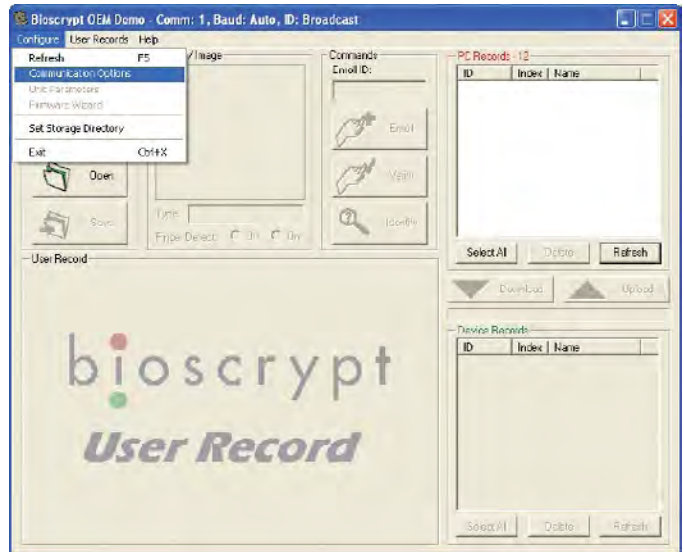

Figure 31. Bioscrypt, Communication Options
X. If the Smart Clock did not automatically connect with Bioscrypt, click “Configure” > “Communication Options” (see Figure 31).